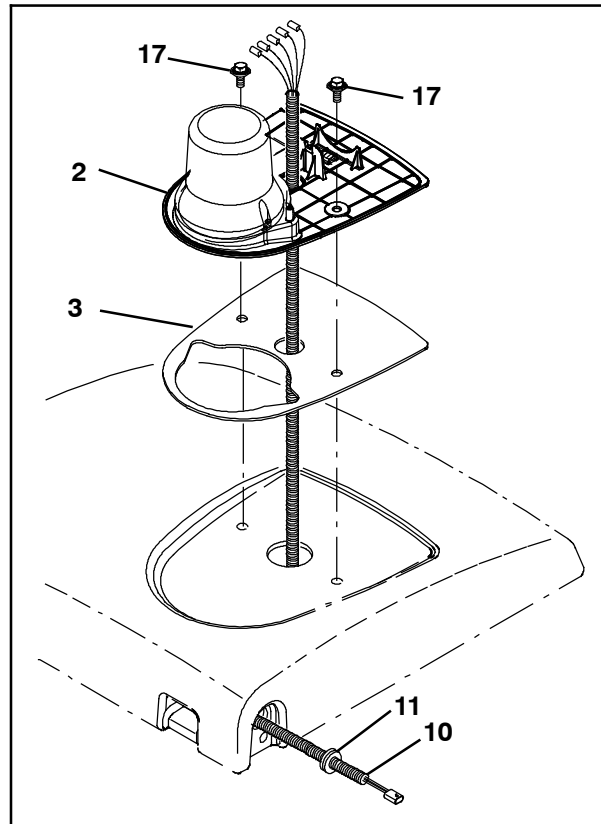

FIG. 6
- Use two M8 hex screws (17) to install the light module base (2) and module base gasket (3) onto the recovery tank cover. (Fig. 6)
- Route the end of the alarm / light wire harness (10) with the single connector down through the module base (2), module base gasket (3), the 2" (50 mm) hole in the recovery tank cover, and out the 1" (25 mm) hole in the recovery tank cover. (Fig. 6)
- Slide the rubber grommet (11) onto the alarm / light wire harness (10) and insert the grommet into the 1" (25 mm) hole in the recovery tank cover. (Fig. 6)